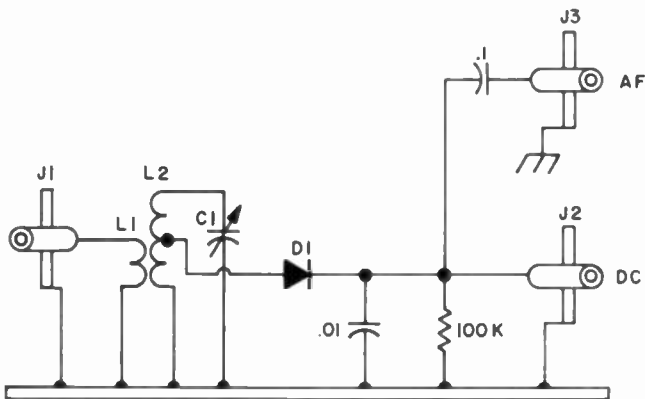

Fig. 7-2. Tuned diode detector.
*The diode detector.* Figure 7-2 shows the schematic of one of these useful pieces of equipment which allow you to listen to your transmitter multiplier stage as you built it, and check the actual frequency at the same time. With a good variable capacitor you can generally run over three to one in frequency range — up to the UHF region at least. From there on up things get a little more difficult.
used here for this purpose. It is a worthwhile and handy little piece of equipment to have in a lot of situations, in both receiver tests and transmitter tuneup. Just plug it into J3 of the diode detector in Fig. 7-2 and hear those unwanted clicks, whistles, rushing noises, squeals, etc., coming from what you may have wishfully thought was good clean rf in your multiplier drive!
Oscillator coupling can easily be adjusted for maximum conversion efficiency via L4 and L7. To start up, adjust L7, C5, and C6 for the range 133 to 127.5 MHz as a local oscillator for the i-f of 10.7 MHz to be used later. Tune up the whole front end using the diode detector of Fig. 7-2 tuned to 10.7 for the i-f section.